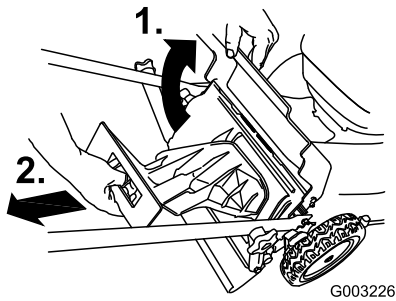

Figure 35
1. Raise and hold up the rear door (Figure 35).
2. Remove the rear discharge plug (Figure 35).